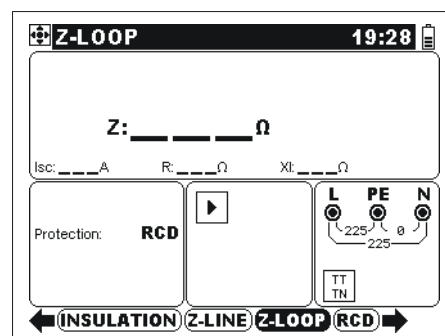

Figure 5.18: Fault loop impedance
- ❑ **Connect** test leads to the tested object (see figure 5.18).